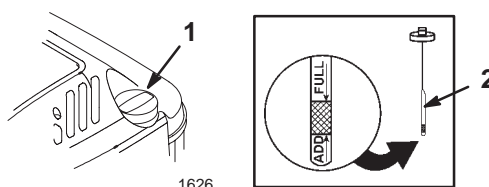

Figure 8
Before each use, ensure that the oil level is between the Add and the Full marks on the dipstick (Fig. 8).
2. Clean around the dipstick (Fig. 8).
6. Read the oil level on the dipstick (Fig. 8).